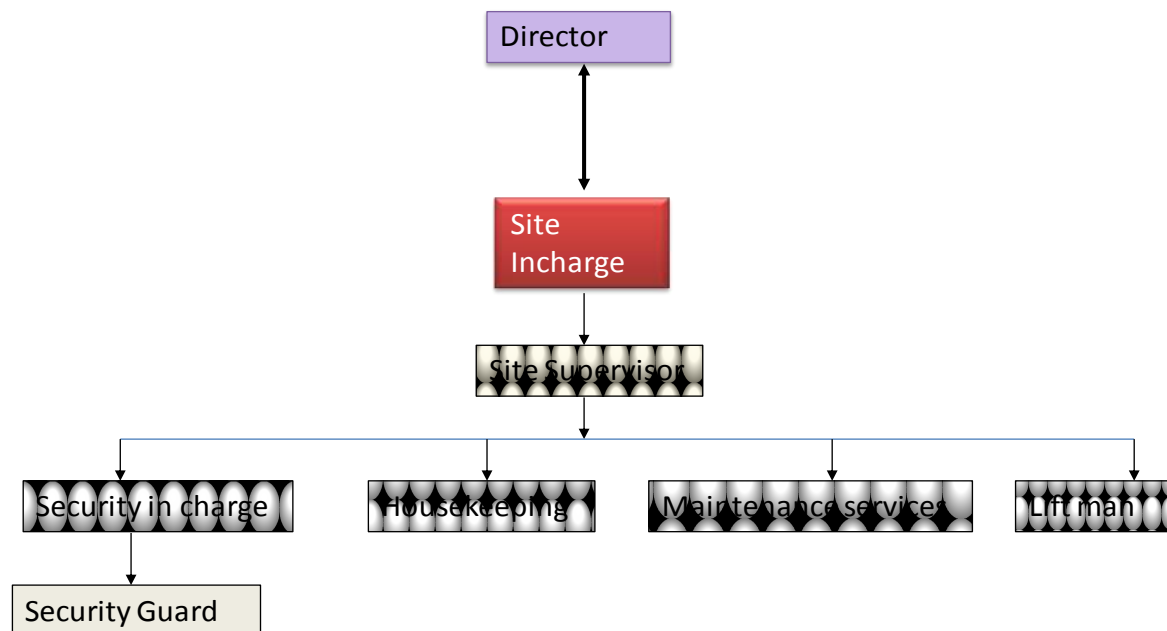

Figure 1.14: Disaster management cell
- Developer would formulate disaster management cell (**Figure 1.14**) and they would be responsible for: